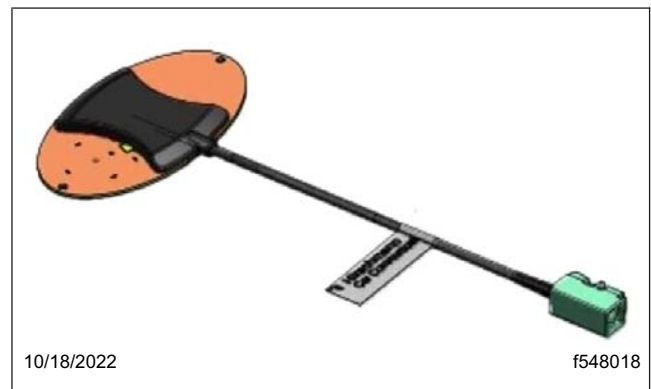

Fig. 3, 4G Cellular Antenna
- 11.1 Install the new 4G antenna. See Fig. 3.